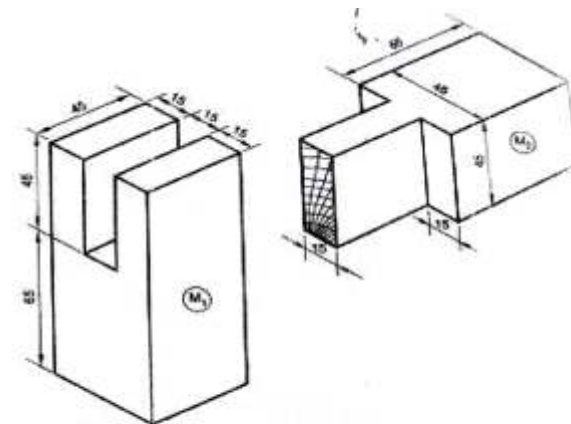

Figure 1
- Q.11 Fig 1 shows the isometric views of members of Corner Bridle joint. Draw its assembled front view, side view and top view.